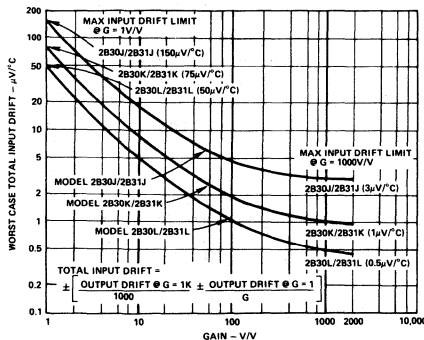

Figure 10. Total Input Offset Drift (Worst Case) vs. Gain
**Input Offset Voltage Drift:** Models 2B30/2B31 are available in three drift selections:  $\pm 0.5$ ,  $\pm 1$  and  $\pm 3\mu V/^\circ C$  (max, RTI,  $G = 1000V/V$ ). Total input drift is composed of two sources (input and output stage drifts) and is gain dependent. Figure 10 is a graph of the worst case total voltage offset drift vs. gain for all versions.